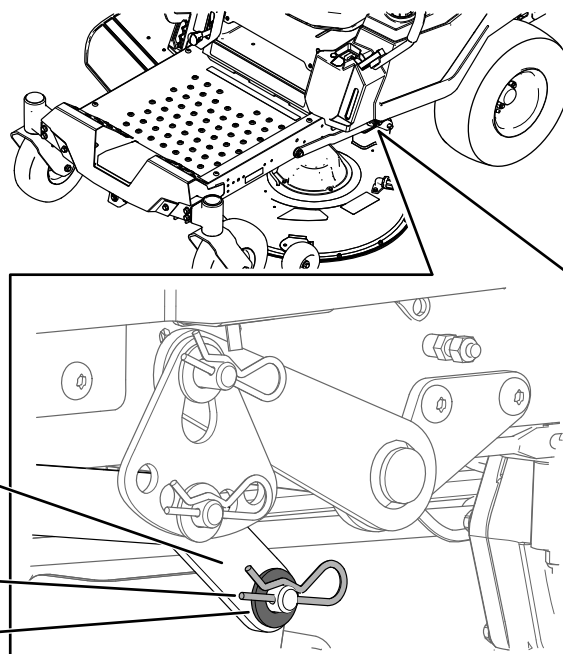

Figure 75
6. On 1 side of the machine, remove the washer and hairpin cotter from the deck pin (Figure 75).
7. Remove the lift arm from the deck pin (Figure 75).
5. On 1 side of the machine, lift the rear of the mower deck and install the lift arm to the deck pin (Figure 75).
6. Install the lift arm using the washer and hairpin cotter (Figure 75).